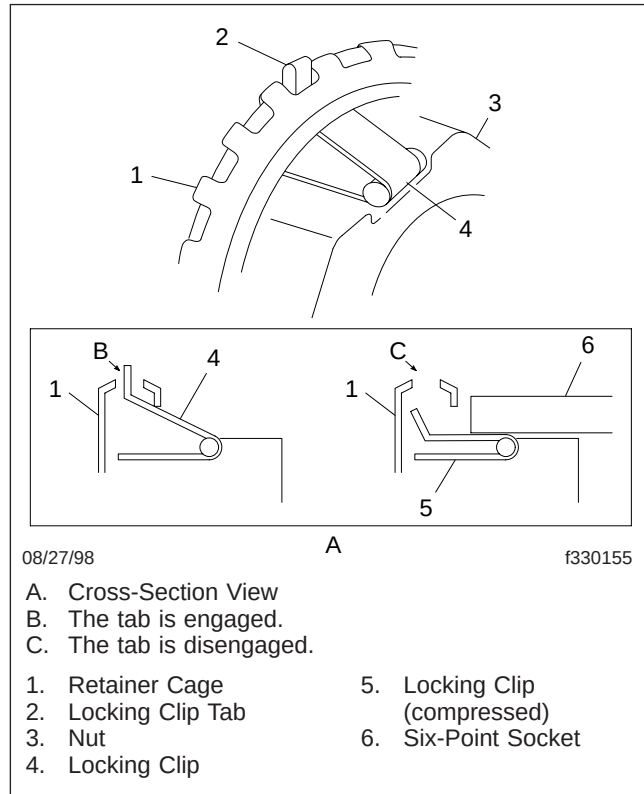

Fig. 3, Axilok Nut, Checking the Position of the Locking Clip
4. Ensure that both locking clips are present and engaged in the retainer cage. See Fig. 3. If the locking clips are not engaged, the nut is not locked in position and can rotate freely.